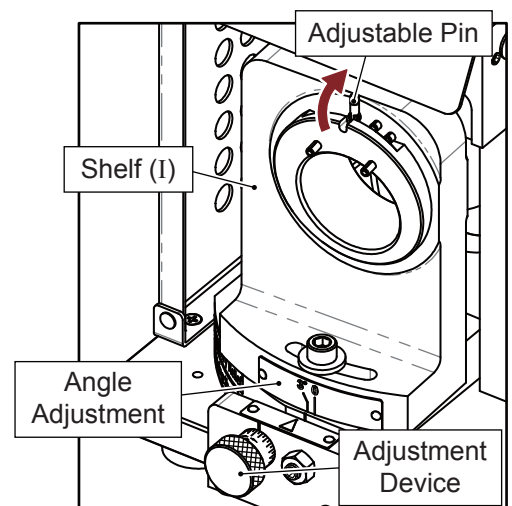

Fig. 7-1
### 1. Secondary Relief Grinding Shelf (I) (Fig. 7-1)
- ① Adjust Shelf (I) to  $3^\circ$ .
- ② Move the adjustable pin on Shelf (I) from the bottom to top.
- ③ Adjust the Cutting face adjustment device to “0”, after finishing the whole sharpening procedure, then adjust this device according to your needs. (See chapter “XIV. The use of the Cutting Face Adjustment Device”)